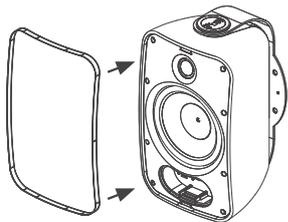

FIGURE 10:
8. Fit the grille onto the speaker (see figure 10).